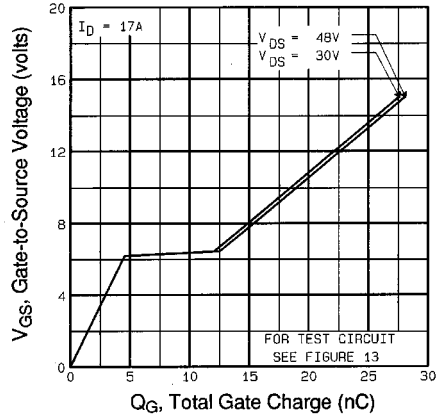

Fig 6. Typical Gate Charge Vs. Gate-to-Source Voltage
| Q_{gd} | Gate-to-Drain ("Miller") Charge | — | — | 11 | | $V_{GS}=10V$ See Fig. 6 and 13 ④ |